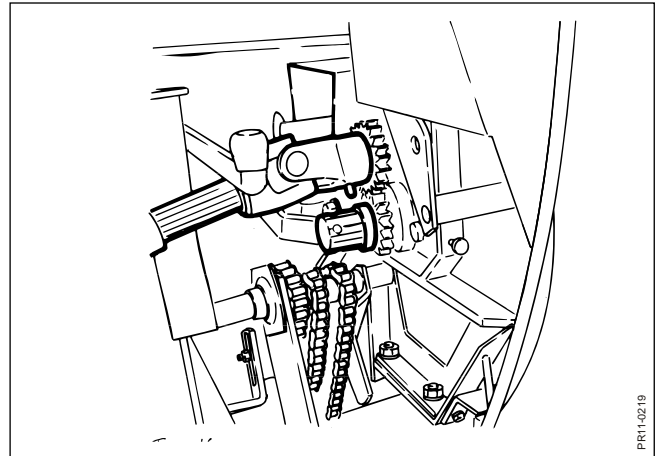

Fig. 4.13
- Fig. 4.13** 3. Attach the drive shaft of the rotor to the stub shaft for opposite direction of rotation.